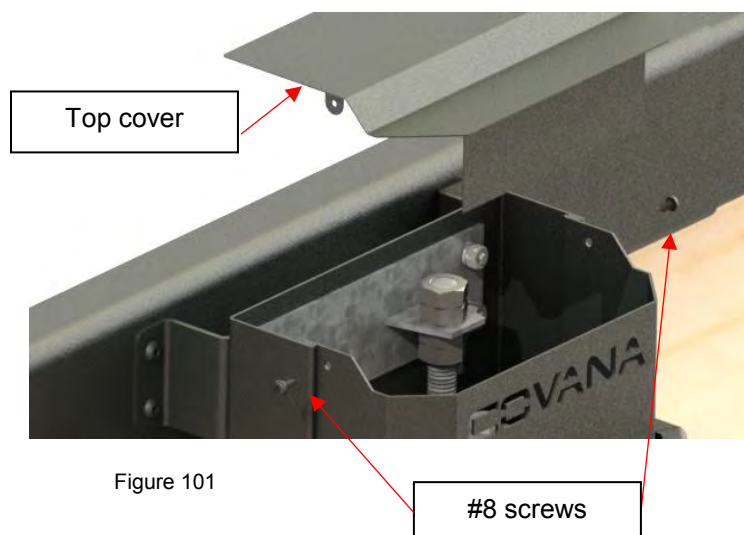

Figure 101
23) Attach the top cover for all four posts. Use the provided Robertson #8 self-drilling screws x 1/2 in. (2 screws per post) (Figure 101)